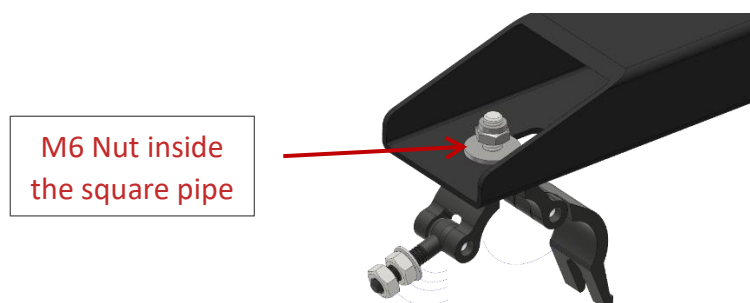

Figure 33 Adjusting the 25 mm clamp of the ECO-ABD-x
Step 3: Securely tighten the two M6 nuts which fix the two clamp to the rectangular pipe (see Figure 33)